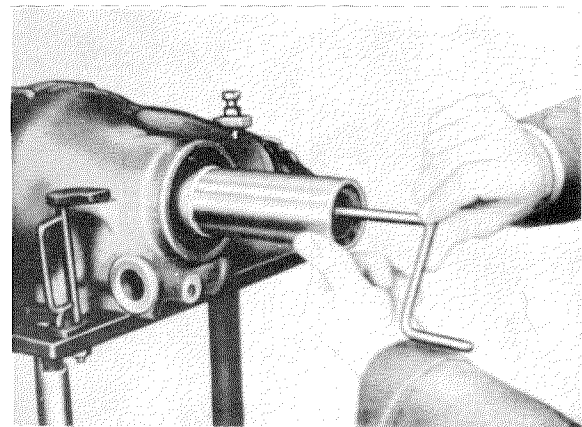

Fig. 35 — 4/63
The dished washers (6) in the differential (see Fig. 35 — 4/48) are made of polyamide plastic on recent models. When repairs are being carried out on the differential, only this type of polyamide plastic dished washer (Part No. 180 353 00 24) must be installed. When dished washers of this type are used, the thrust washers (3) (see Fig. 35 — 4/48) must be carefully selected so as to ensure that the differential side gears (4) and (5) turn easily, but at the same time are firmly held.